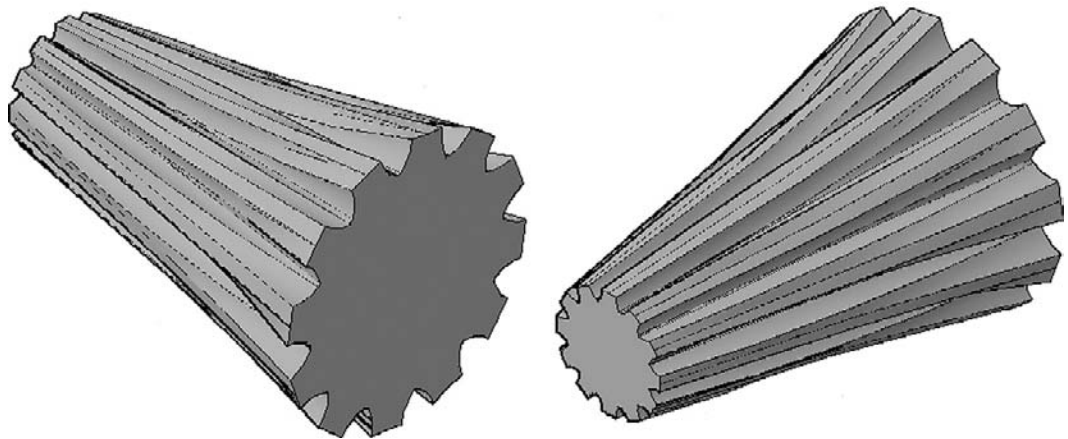

FIGURE 25.33
Step 5. Finally, you are ready to execute loft. Figure 25.33 shows the result.